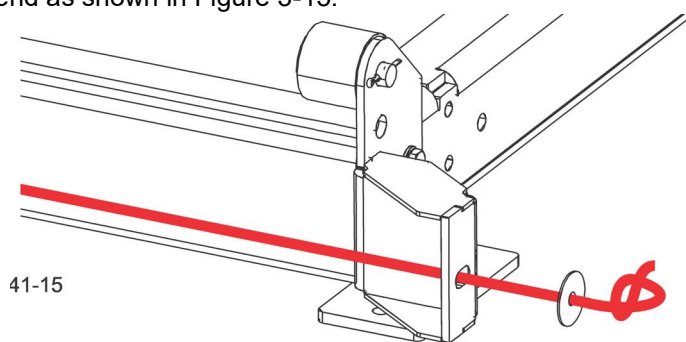

FIG. 3-15
3. Tie a knot in the rope at that end as shown in Figure 3-15.